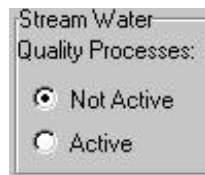

Figure 13.12
- h. Stream Water Quality processes. In this section, the user decides whether or not in-stream nutrient transformations are calculated (Figure 13.12).